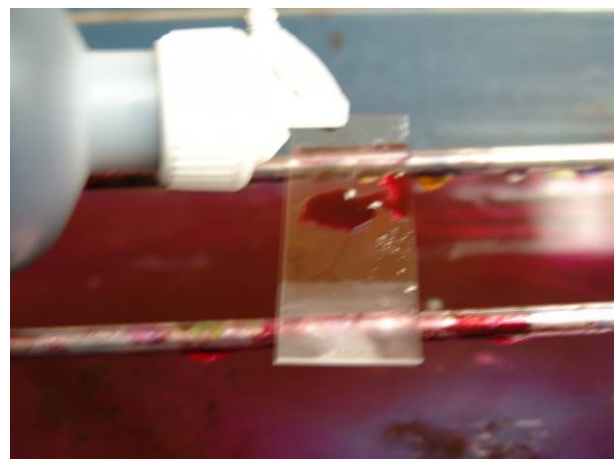

Figure 6: Sample Covered with safranin
- 9.6. Figure 6: Sample covered with safranin